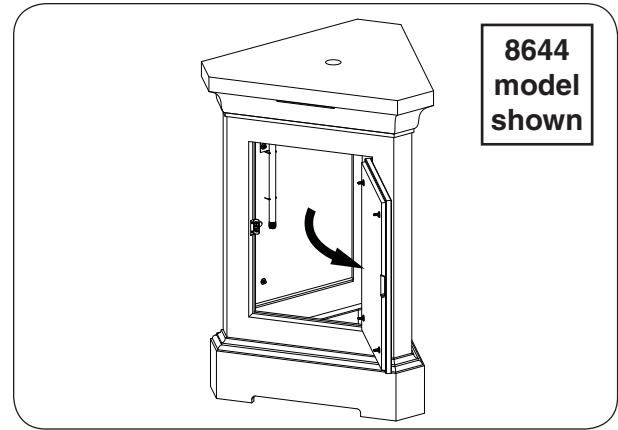

Fig. 27-1 Place pedestal and open door
CAREFULLY place the pedestal in an appropriate location (see Fig. 27-1, and refer back to the LOCATION section if needed).
1. Open the storage door (see Fig. 27-1).